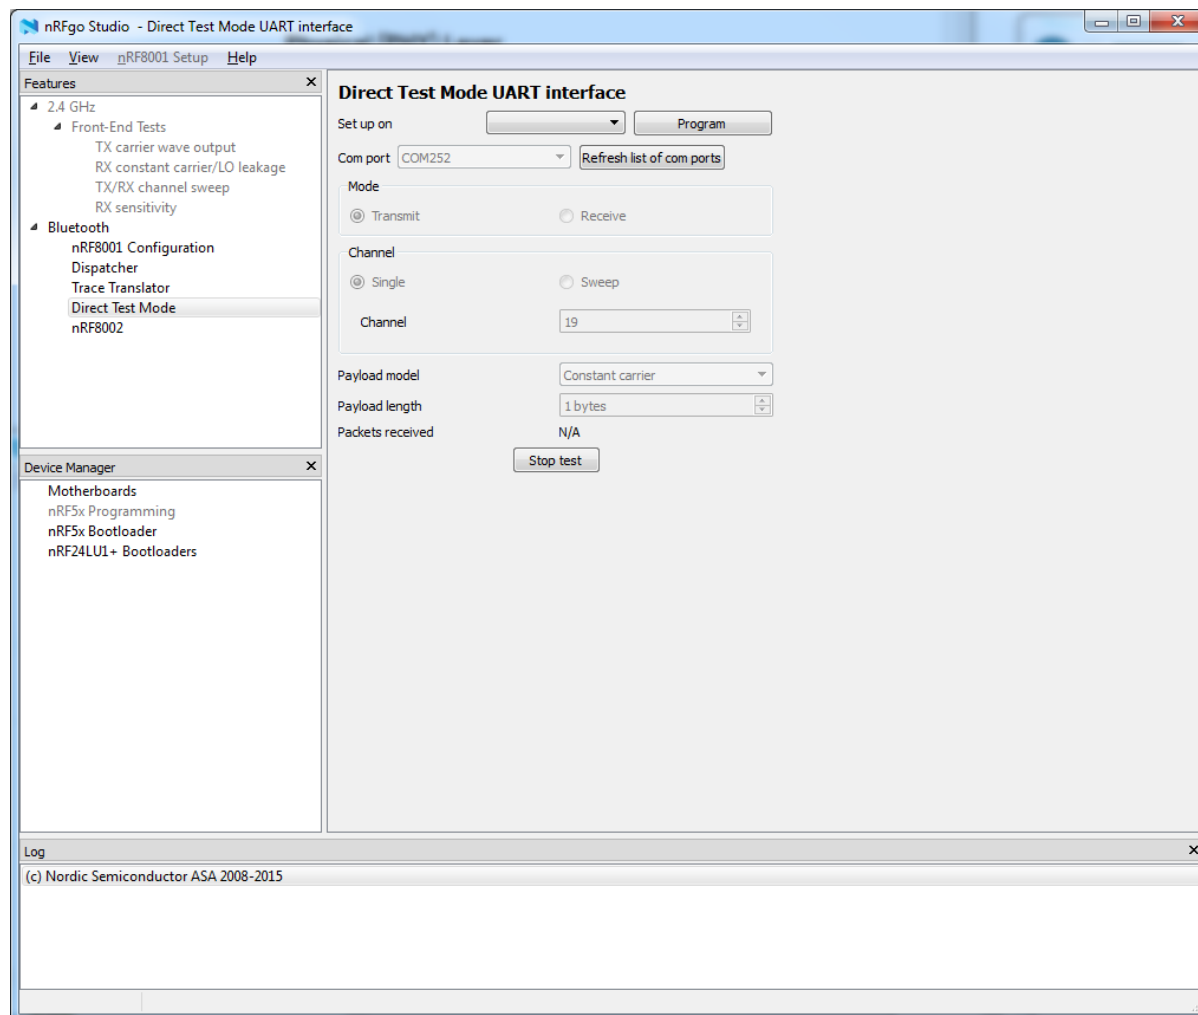
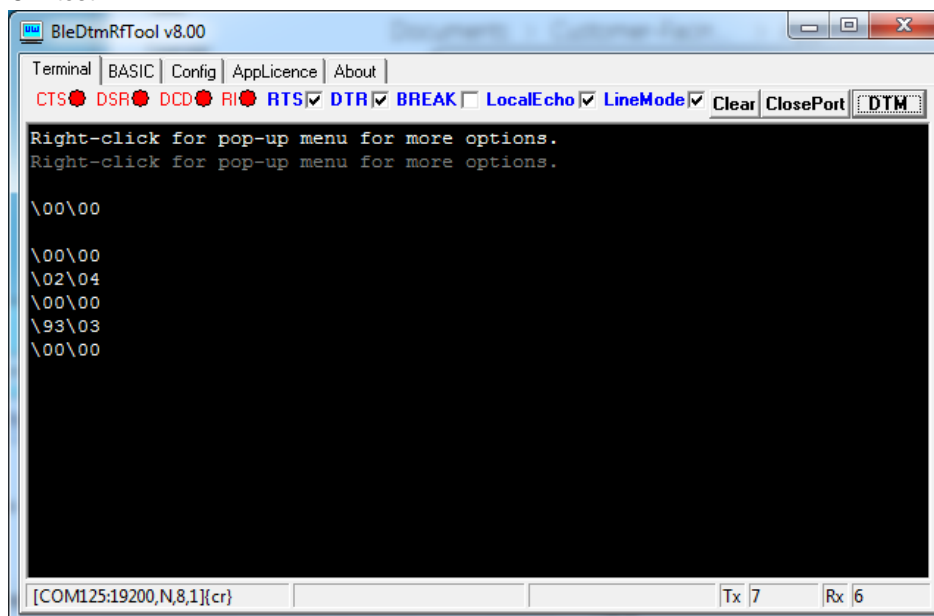

Figure 5: Successful initiation of TX Test
Figure 8: Successful initiation of TX Test
Once configured, click **Start Test**. If successful, no errors should show, as illustrated in Figure 5.
- Once configured, click **TRANSMIT**. If successful, no errors should show, as illustrated in Figure 5. Figure 8 shows a TX CW test.